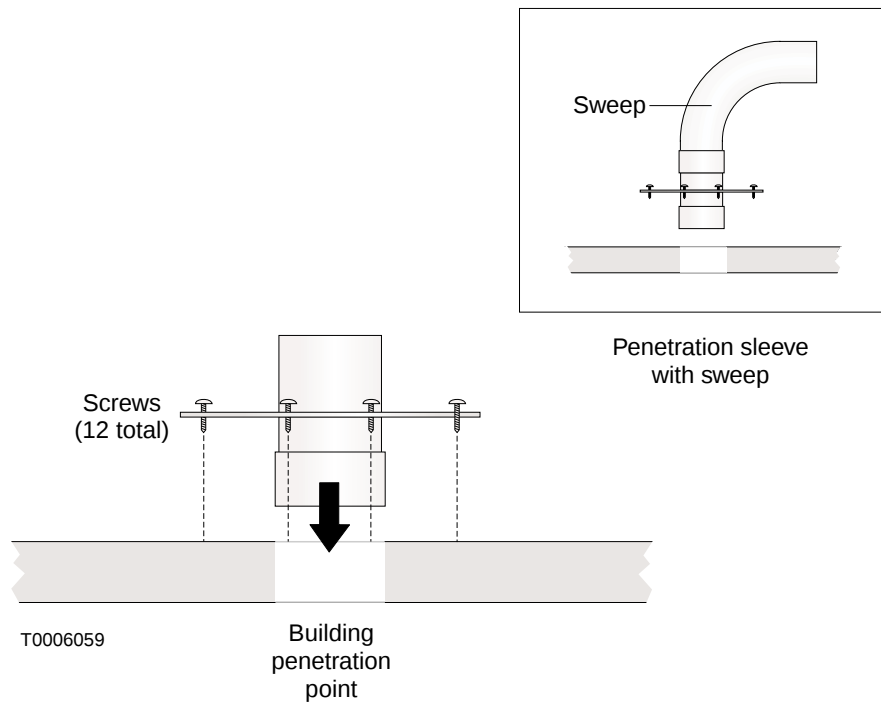

Figure 5-3 Installing the hub penetration sleeve
1. Use twelve screws to attach the hub penetration sleeve (sleeve and coupling) to the building surface at the building penetration point. See figure 5-3.
Note: If space is limited, use a 90° sweep, as illustrated in in figure 5-3.
2. Run the cable from the IDU chassis location, through an existing conduit if possible, through the hub penetration sleeve (figure 5-3), to the lightning arrestor location. Use a stand so the cable spool spins freely as it is pulled. Leave a service loop.